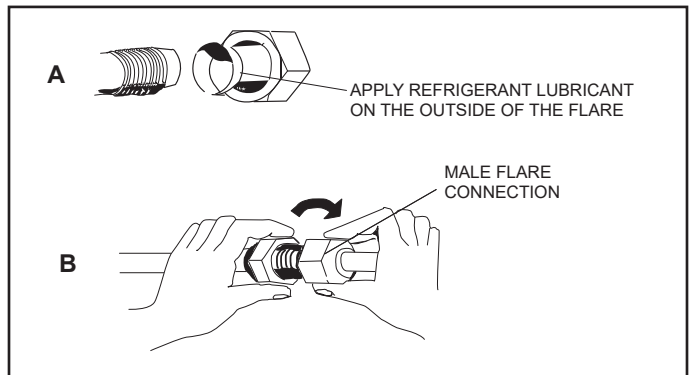

Figure 3. Making Connections
7. Access is required during the commissioning process to test the condensate disposal system (See Figure 9), to check the electronic expansion valve and associated flare nuts (See Figure 3), and to check the local disconnect. Ceiling framing should not restrict access.
5. Apply recommended HFC-410A refrigerant lubricant to the outside of the flared refrigerant lines (Figure 3-A).
6. Align the threaded connections with the flared refrigerant lines. Tighten the flare nuts lightly at first to obtain a smooth match (Figure 3-B).